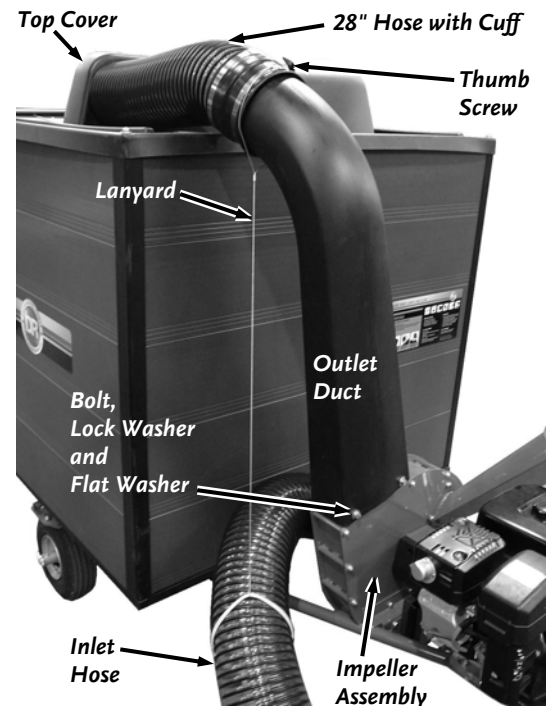

Figure 14
4. Place the Impeller Outlet Duct over the Impeller Housing (**Figure 14**). The Duct goes on tightly and may be easier to install by starting at one corner